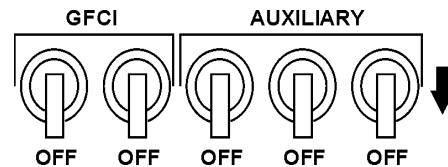

Figure 26. GFCI/AUX. Circuit Breakers (OFF)
- Place **GFCI** and **AUX.** circuit breakers (Figure 26) in the **OFF** position.